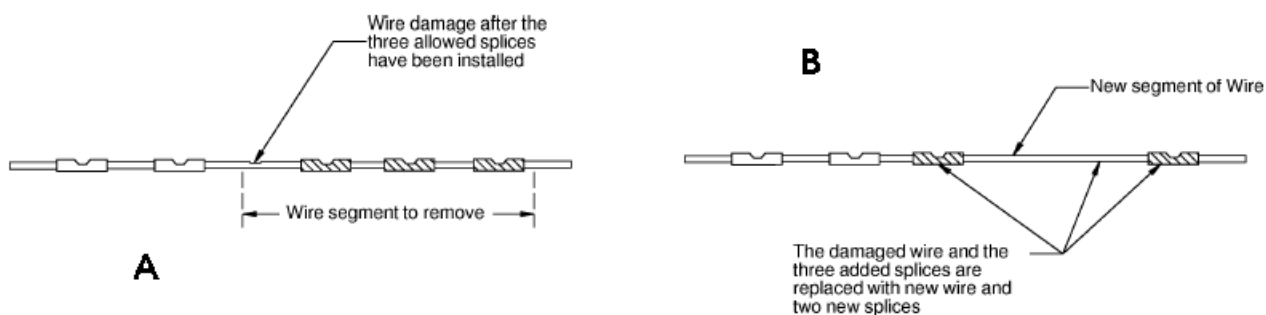

Figure 7-48. When there is one more damage in addition to already repaired three
- It is permitted to remove three or more splices and replace them with two new splices (**Fig. 7-48**);